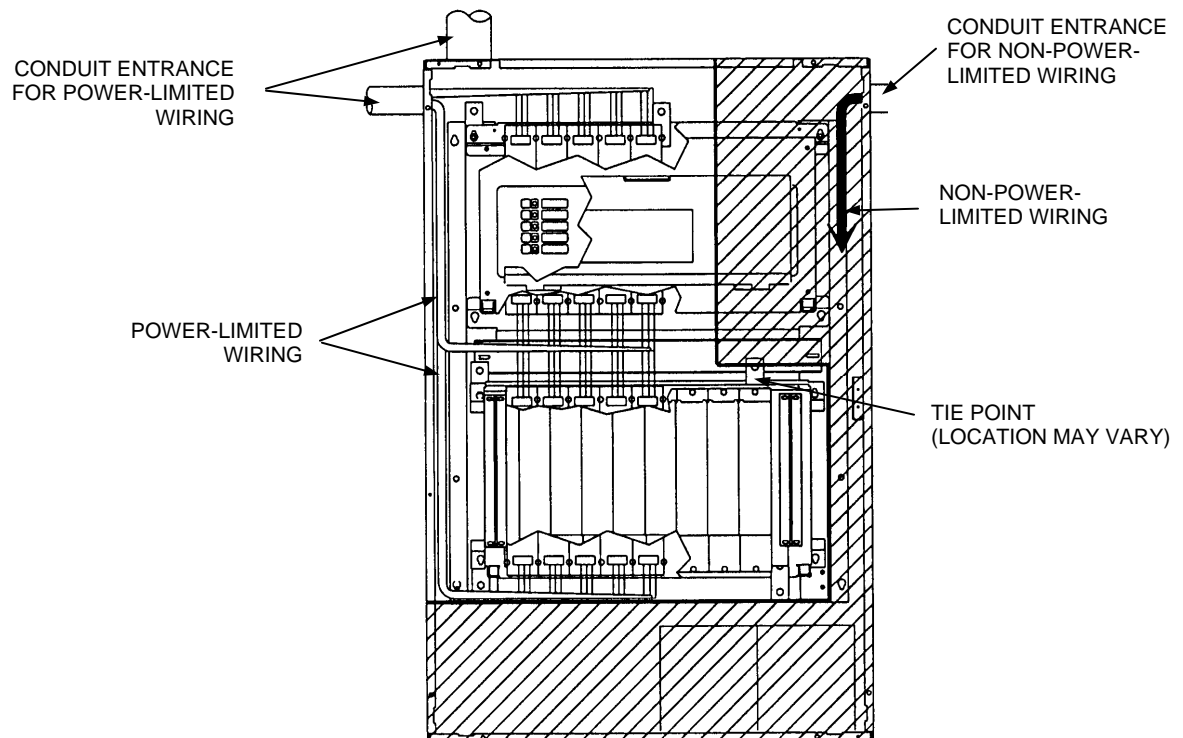

Figure 11. Power-Limited Wiring
- Non-power-limited field wiring (AC power, batteries, City connection) must be installed and routed in the shaded areas shown in Figure 11.
- Power-limited field wiring must be installed and routed in the non-shaded areas shown in Figure 11, with the exception of City wiring.
- Excess slack should be kept to a minimum inside the back box enclosure. The wiring should be neatly dressed and bundled together using the wire ties provided with the equipment. Anchor power-limited wiring to tie points, as shown in Figure 11.